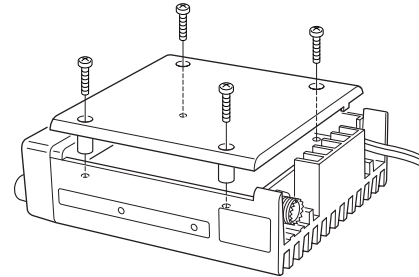

Fig. 1
- ① Turns the power OFF, then disconnect the DC power cable.
- ② Unscrew the 4 screws, then remove the bottom cover. (Fig. 1)